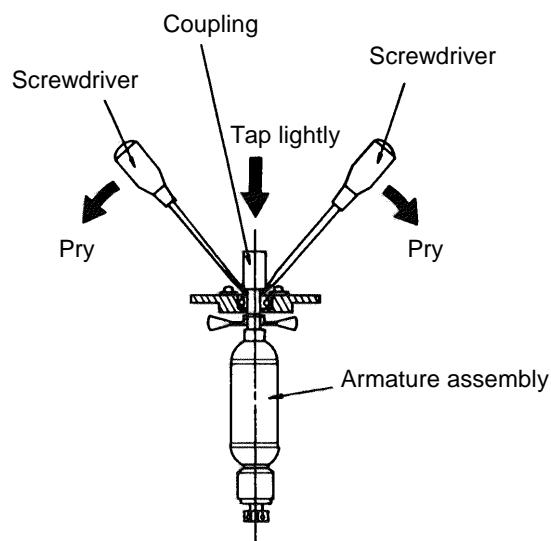

Fig. 2
- (1) As illustrated in Fig. 2, raise the Coupling ⑬ slightly with a screwdriver or similar tool to partially remove it.
- (2) Push the Coupling on again by tapping it lightly with a wooden hammer.
- (3) Repeat steps (1) and (2) several times until the rust is freed and the Coupling can be fully removed.